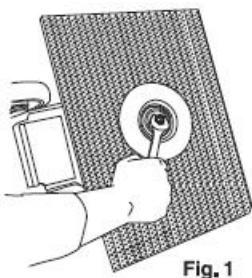

Fig. 1
4. Remove the central screw on the bottom of the pad driver with a 3/4 wrench (Fig. 1).